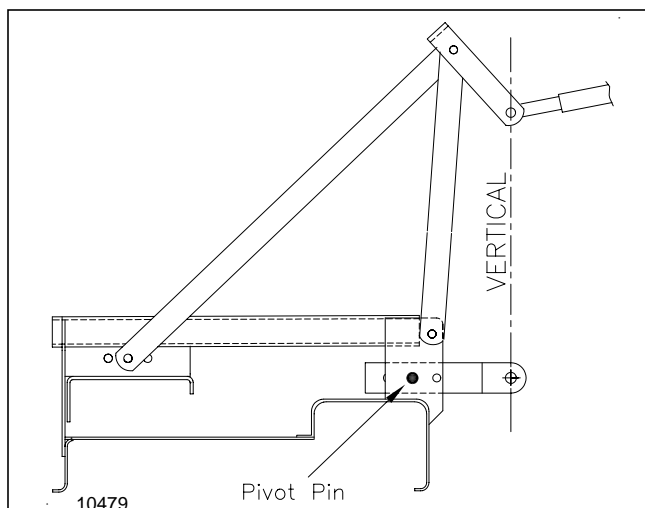

Fig. 1
1. Loosen 5/8" x 1 1/2" long bolts (#18) and swing upper hitch (#21) up to a vertical position. Remove 5/8" x 5" long bolt (#25) and install upper hitch brace (#22) upper pivoting hitch (#23) and hitch spacer (#24) with 5/8" x 5" long bolt (#25) as shown in parts illustration. Refer to Fig. 1 on page 5, for bolting location of upper hitch brace (#22) and tighten hardware to listed torque above.
3. Referring to fig. 1, attach tractor top link to upper floating hitch on mower with pin supplied. Secure with lock pin.
4. Adjust the tractor top link in or out to place the upper hitch pin vertically above the lower hitch pins as shown in fig. 1(below) to allow mower flotation.
The mower can be operated with hitch blocks in either position. Depending upon the use of front gauge wheels, the lower hitch blocks can be used without the locking pin. If mower is not equipped with front gauge wheels and leveling chains are used, the locking pin should be installed. The lower hitch blocks and top link rear braces can be adjusted front to back as shown in fig. 1.
1. Set lower hitches and upper floating hitch, as shown in fig. 1 on page 5.
5. Adjust the tractor top link in or out to place the upper hitch pin vertically above the lower hitch pin as shown in fig. 1 on page 5, to allow mower flotation.
1. Set the lower hitches and upper floating hitch as shown in fig. 1 on page 5.
1. Set lower hitches and upper floating hitch at desired setting as shown in fig. 1 on page 5.